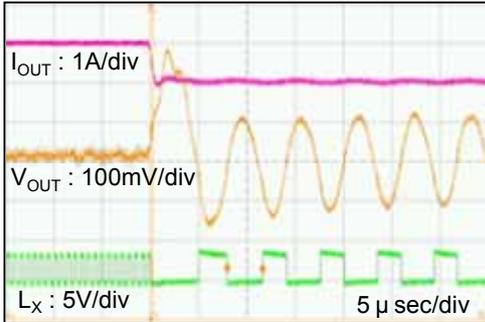
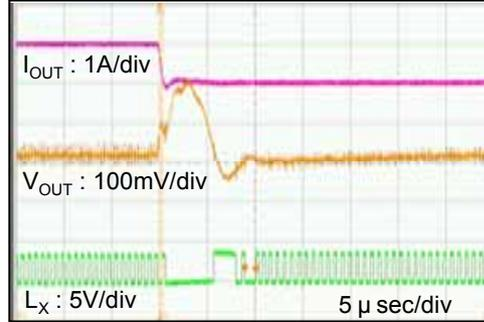
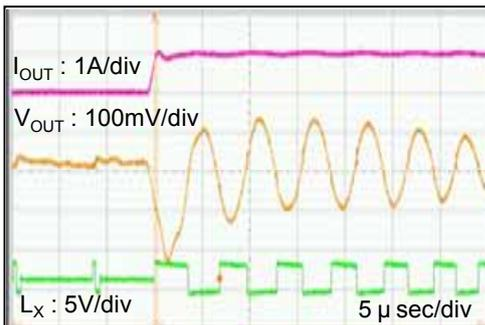

Fig.14-1 Insufficient C_L ($T_a = -40$, $C_L = 10 \mu F$)
Fig.14-2 Sufficient C_L ($T_a = -40$, $C_L = 20 \mu F$)
Fig.14-3 Insufficient C_L ($T_a = -40$, $C_L = 10 \mu F$)
14. If the capacitance value is not sufficient by degrading C_L due to the low temp. condition and DC bias feature, 100% duty cycle might come up for the load transient condition. Add capacitance value for C_L if necessary. (Refer to Fig14-1, Fig14-2, Fig14-3, Fig.14-4)